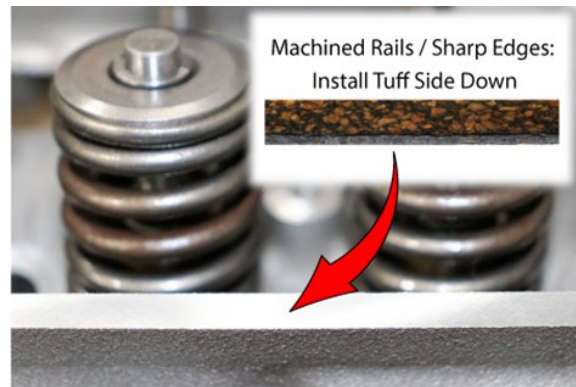

Figure 2
- b. Machined rails can be narrow and sharp, to prevent cutting the gasket, place the Tuff-Back side against the head (see figure 2).